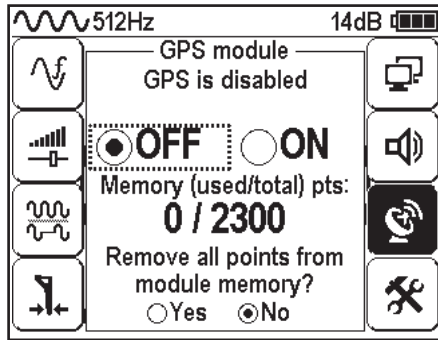

Fig. 1
2. If a response from the module is received, the receiver requests the number of available GPS points in module's memory and shows this information on the screen (see fig 1)